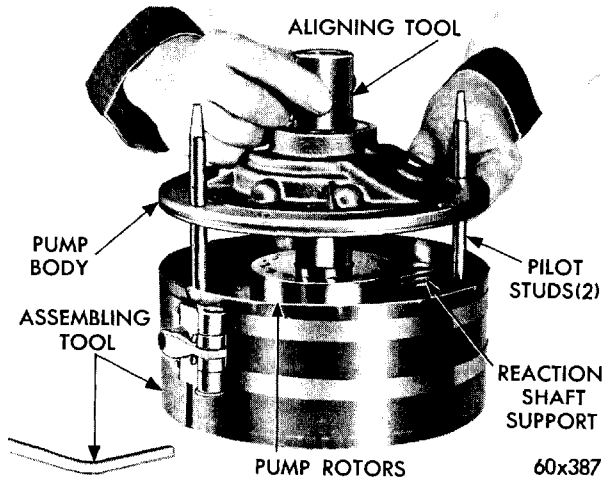

Fig. 44—Assembling Front Pump and Reaction Shaft Support
(1) Place reaction shaft support in assembling Tool C-3759 with hub of support resting on bench (Fig. 44). Screw two pilot studs, Tool C-3283 into threaded holes of reaction shaft support flange.
(2) Assemble rotors with dye marks aligned, place rotors in center of the support (Fig. 44). **The two driving lugs inside rotor must be next to the face of reaction shaft support.**
(3) Lower pump body over pilot studs, insert Tool C-3756 through pump body and engage with pump inner rotor. Rotate rotors with the tool to enter rotors in the pump body, then with pump body firmly against the reaction shaft support, tighten clamping tool securely.
(4) Invert the front pump and reaction shaft support assembly with clamping tool intact. Install support to pump body bolts and tighten to 14-16 foot-pounds